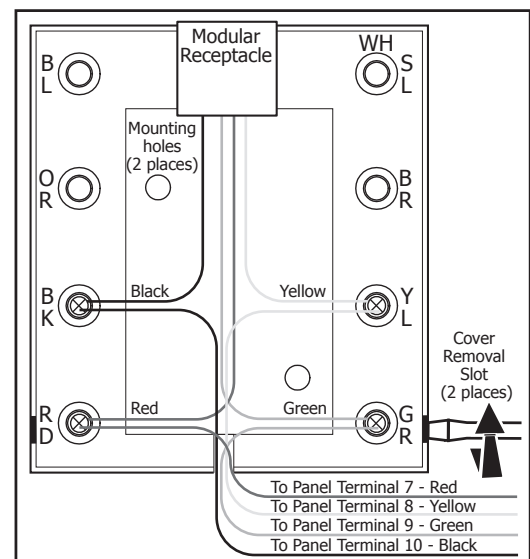

Figure 3: Wiring Detail
3. Connect the Red, Yellow, Green, and Black wires from Panel Terminals 7, 8, 9, and 10 to the wiring block as shown in Figure 3.